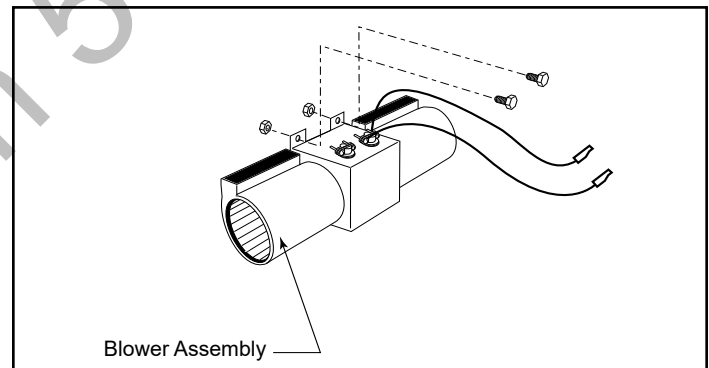

Figure 50 - RADVTSC Blower assembly
The wall switch wire connection is located off the 2 ft. wire harness from the control box to the command center. Figure 50. The connection is labeled “Wall Switch”. Unplug the male and female connectors and connect the two (2) low voltage wires provided. Run wire to desired location on wall. Up to 50 ft. of 18 ga. wire may be used if necessary. Attach wires to wall switch. Mount the wall switch in to junction box and screw on cover.